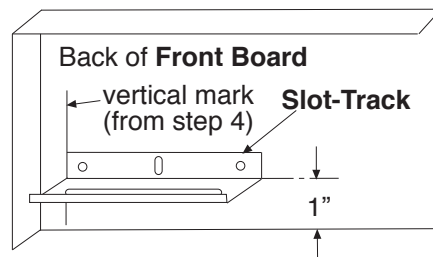

Fig 3 Backside view of **Cornice**
5. Remove the **Hinge Pins**, take the **Cornice** off, and install the **Slot-Track** on the inside of the **Front Board**, 1" up from and parallel to the bottom and line up the end of the **Slot-Track** with the vertical mark as shown in fig 3.